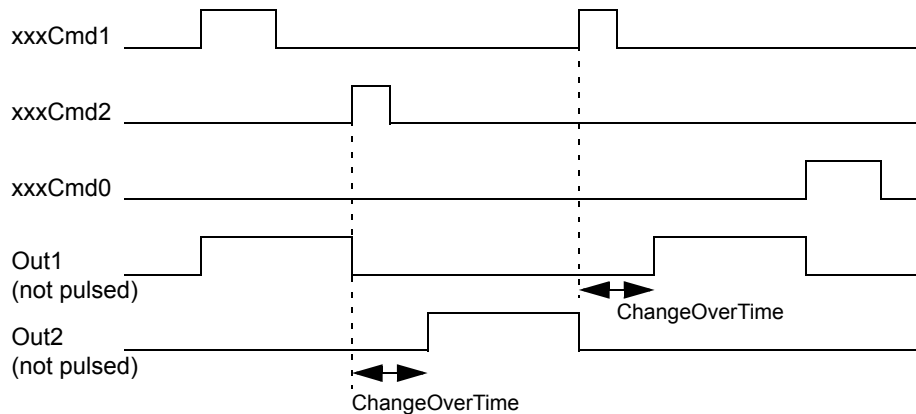

Figure 155. Change-over action state diagram
(switching forward/reverse). The parameter *ChangeOverTime* sets a delay time, before the direction can be changed (see Figure 155).
- The *Ilock1*, *Ilock2* and *Ilock0* interlocking parameters block commands in all modes, so that the object cannot be forced to the activated or deactivated states, respectively. The *Inhibit* signal will suppress interlock signals when True. Figure 155 shows which changes between states that are blocked by interlocking parameters.